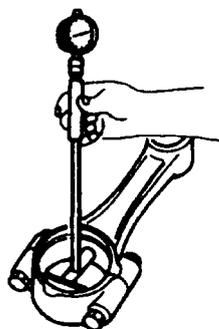

Figure 28 Measuring the Connecting Rod Bearing
- r. Install new bearings into the connecting rod big-end and the big-end cap. Assemble the cap to the connecting rod and tighten the bolts to 39 N.m (29 lbf.ft), then tighten each bolt a further 60 to 90 degrees. With an internal micrometer, measure the inside diameter of the bearing (Figure 28). The nominal diameter is 64 mm. Subtract the crankshaft bearing journal diameter from the diameter of the corresponding bearing to obtain the clearance. The standard clearance limits are 0.073 to 0.10 mm (0.0029 to 0.004 in). If the clearance exceeds the limit, replace the crankshaft. Remove the bolts, big-end caps and bearings and set them aside.